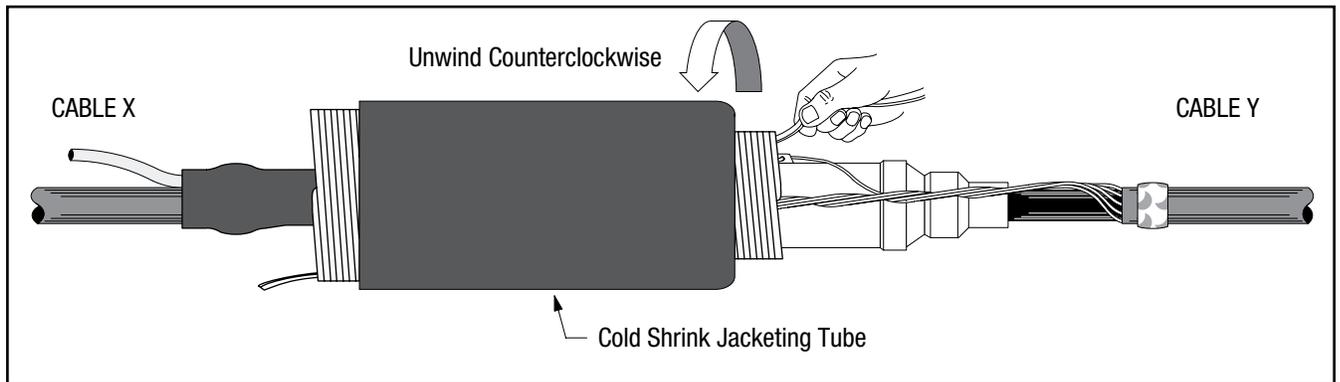

Figure 8
- 4.2 Begin to install the cold shrink tube by completely covering the rubber mastic, and slowly pulling and unwinding the inner core counterclockwise toward the splice body. The outer core should remain relatively stationary while unwinding the inner core. If the outer core begins to move towards the first mastic seal, gently pull the outer core and jacketing tube towards the second mastic seal and continue unwinding the inner core. (Figure 8)